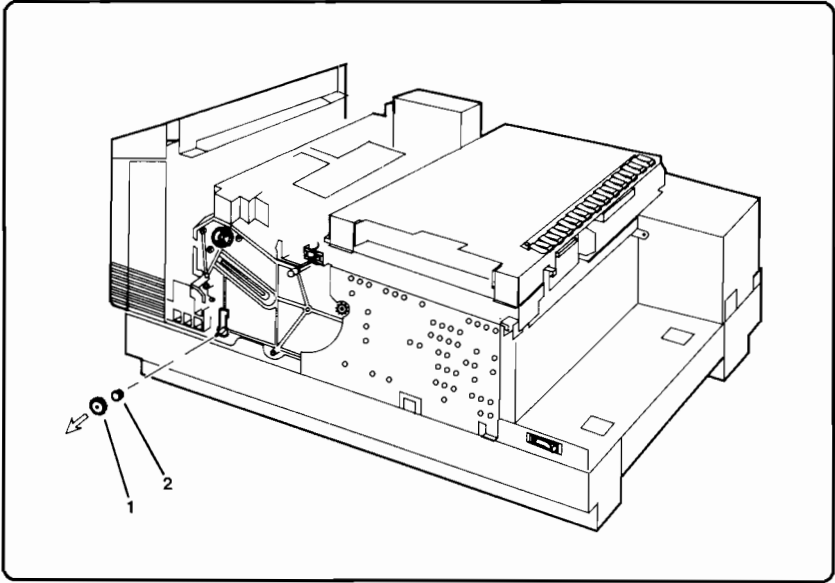

Figure 6-45. Input Feed Roller Assembly Removal
3. Slide the Input Feed Roller Gear (Figure 6-45, callout 1) and plastic bushing (callout 2) off its shaft.